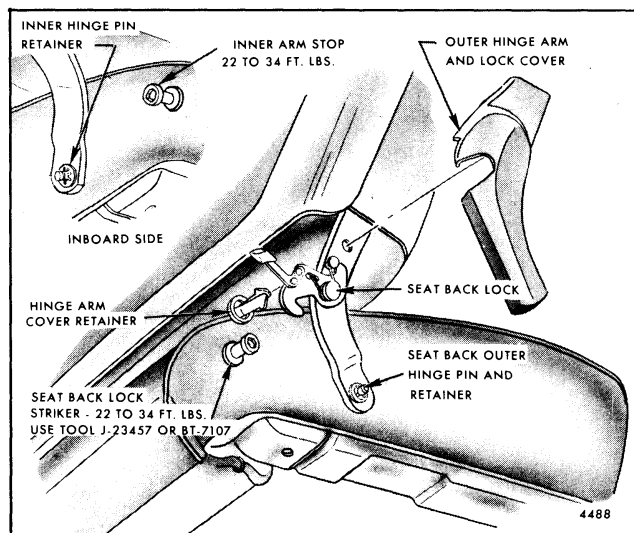

Fig. 9-52-Adjustable Drivers Seat Back - Outer Side - Chevrolet "F" Styles
cam to cam rod (Fig. 9-52) and remove handle and cam (see Figs. 9-52 and 9-53).
- At left side of seat, remove nut securing outer cam to cam rod (see Figs. 9-52 and 9-53) and remove cam from rod.